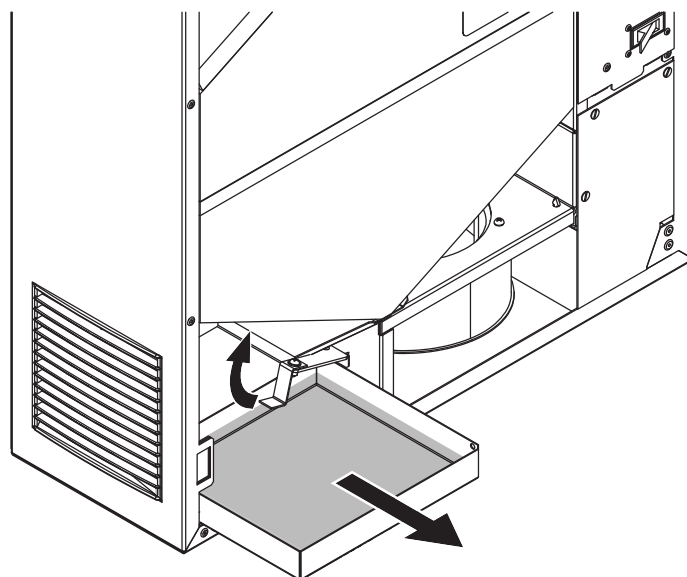

Fig. 17. Drain pan removing
4. Holding the condensate level switch, pull and remove the condensate drain pan carefully, Fig. 17.